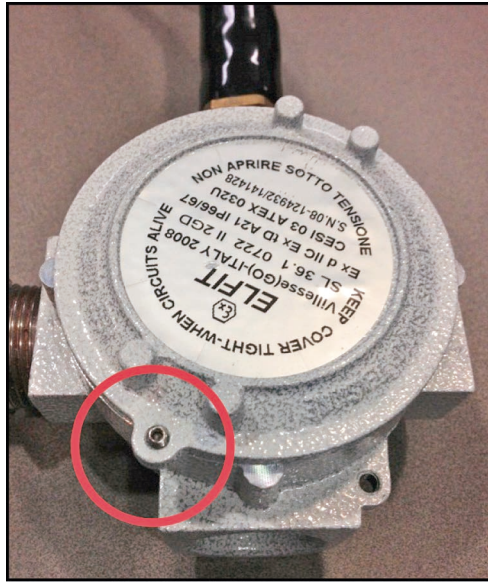

Figure 23: Junction Box Set Screw
10. Place the cap of the junction box over the XAMP and tighten the cap until the junction box is firmly closed. Engage the set screw (see Figure 23 below) to secure the cap in place.